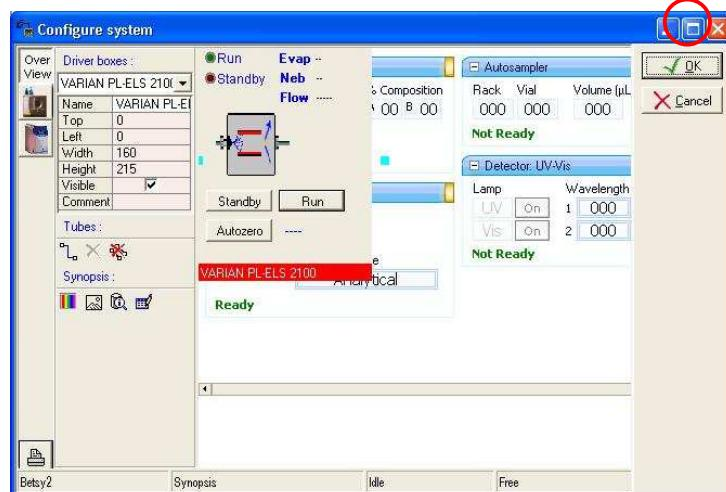
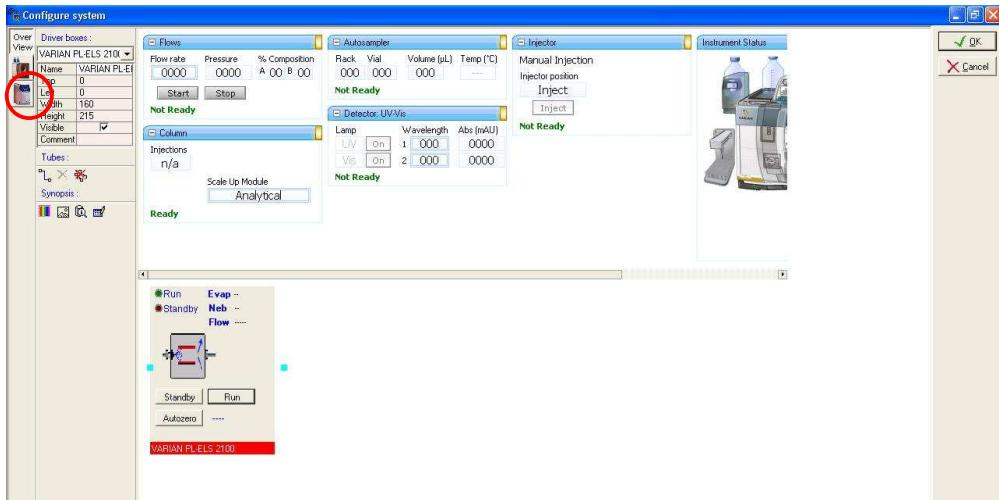

Figure 8: Configure System Screen Capture
Figure 9: Configure System Screen Capture
- The screen shown in Fig 8 will appear after approximately 30seconds.
- The picture for the ELSD covers the 900-LC instrument. Don't panic simply enlarge the screen by clicking on the maximise button in the top right corner (Fig 8). Move the ELSD picture by clicking on it and move it below the 900-LC driver as shown in Fig 9.
11. Notice that the ELSD picture is now below the 900-LC instrument picture. Click on the ELSD picture on the left hand side panel (Fig 9).